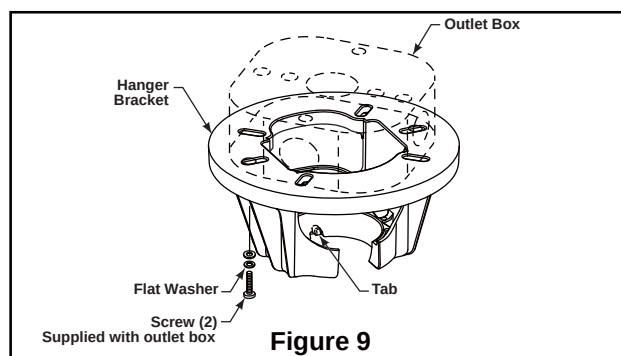

Figure 9
1. Securely attach the hanger bracket to the outlet box using the outlet box screws and washers supplied with the outlet box. (Figure 9)